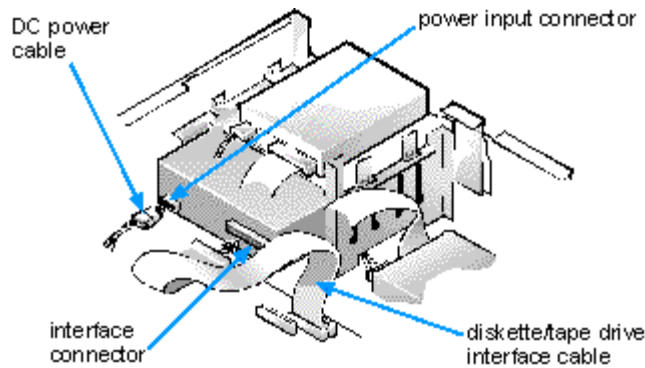

Figure 7-10. Attaching Cables to a Drive in the 5.25-Inch Drive Bay
8. Connect a DC power cable to the power input connector on the back of the drive (see Figure 7-10).
9. Connect the appropriate interface cable to the interface connector on the back of the drive (see Figure 7-10).